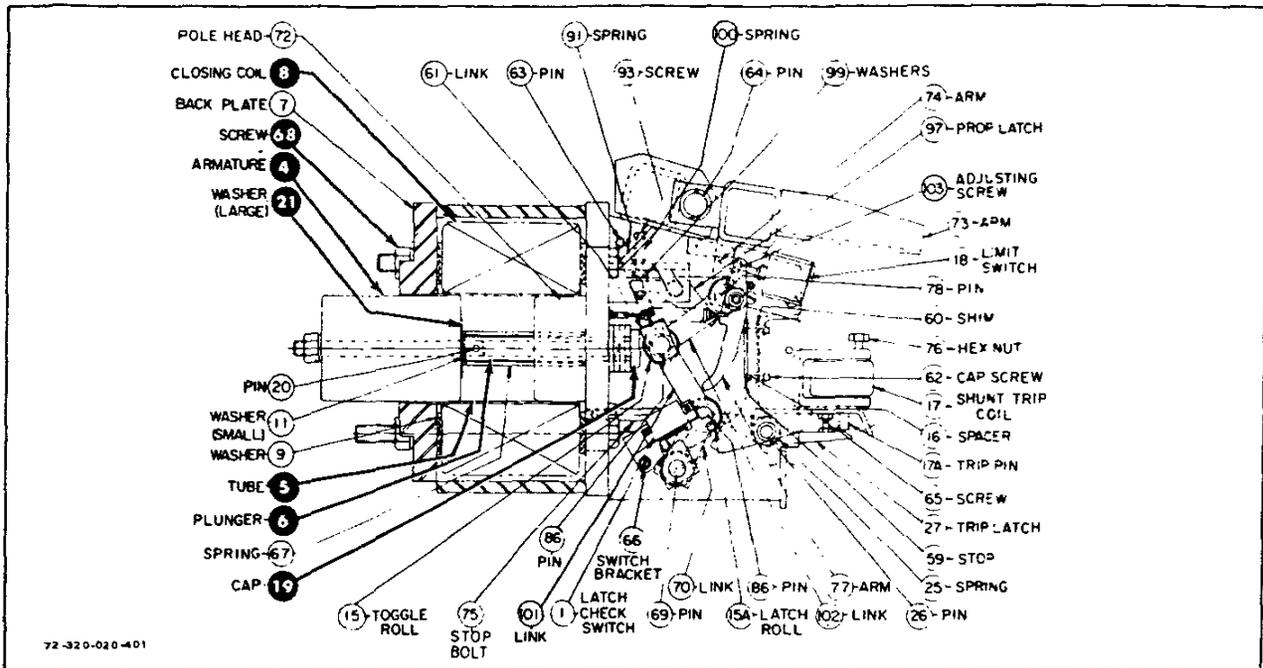

Fig. 3 - Solenoid operator assembly.
**Solenoid Operator** - The primary closing force of this operator (Fig. 3) is supplied by a dc solenoid. The iron circuit housing the solenoid consists of the main operator frame - to which the pole head is welded - a helically wound tube and a back plate held in place by four bolts (68). The armature (4), with plunger (6) and cap (19) attached, slides in a non-magnetic tube (5). When the coil (8) is energized, the armature moves toward the pole head. The non-magnetic washer (21) keeps the armature from actual contact with the pole head so that the armature will release rapidly when the coil is de-energized by reducing the effect of the residual magnetism. The armature is returned by a spring around the plunger.